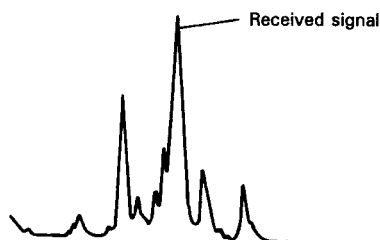

Figure 4. Electric wave distribution observed during signal reception
- 3) When $\blacktriangleleft\blacktriangleright$ has been properly set, turn the CAL marker switch of the TS-950 to OFF to prepare for signal reception. Electric wave distributions such as that in Figure 4 can be observed.